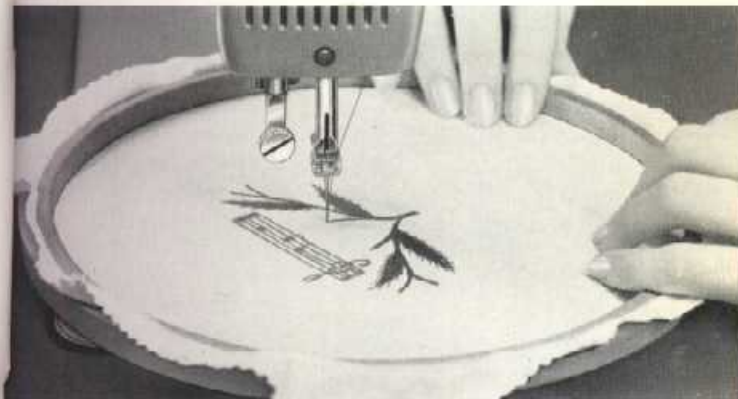

Fig. 39
- Place hoop with fabric underneath needle (see Fig. 39).